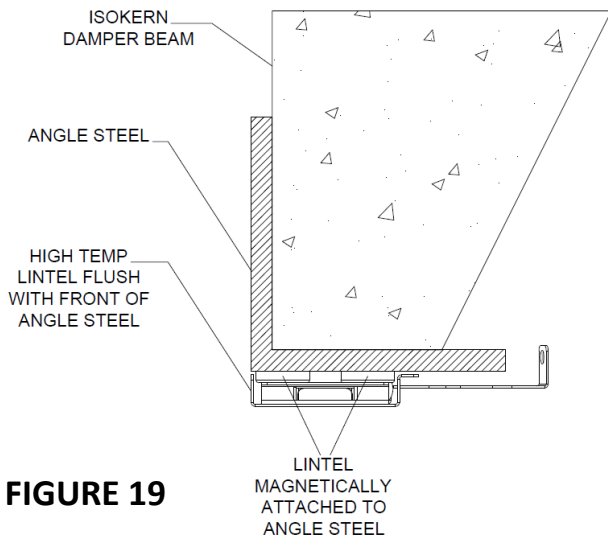

FIGURE 19
- Measure and locate the centerline of the fireplace opening. The lintels attach to the bottom of the angle steel of the fireplace via high temp magnets. Position and center the connected lintels on the angle steel. **MAKE SURE THE LINTEL WITH THE DAMPER HANDLE IS ON THE RIGHT SIDE OF THE FIREPLACE AND PROJECTS INSIDE THE FIREPLACE.** **(Figure 19 and 20)**
- Once connected, both lintels should be flush against each other where they meet in the middle of the angle steel. The front should be flush in the same plane as the front of the angle steel. **(Figure 19)**